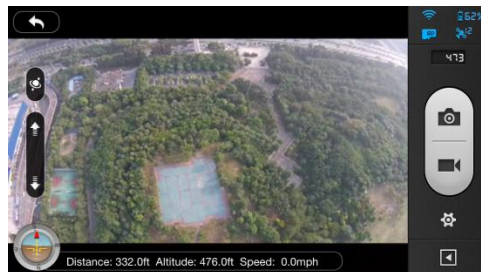

Fig.3
5. Tap the "CAMERA" icon and the DJI VISION App will establish a live camera preview (Fig.3). This means everything is now functioning.